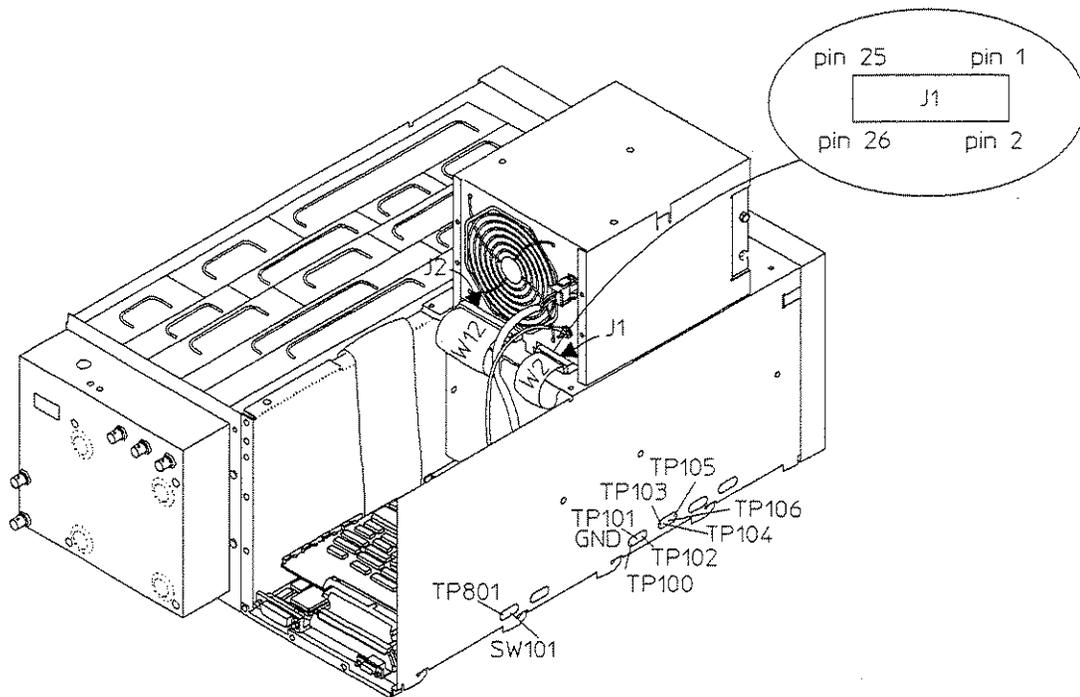

Figure 5-3. Initial Verification Test Locations
- Set the power switch to ON (I). Check the voltages in table 5-4 (see figure 5-3).
- b. Set the power switch to ON (I). With a logic probe, check J1 pin 13 (PVALID) on the Power Supply assembly for a TTL logic high (see figure 5-3). If the signal is incorrect, the Power Supply assembly is faulty.
- d. Set the power switch to ON (I). While monitoring TP100, momentarily connect TP801 to chassis ground. If the logic level at TP100 did not go from high to low, the CPU assembly is probably faulty.